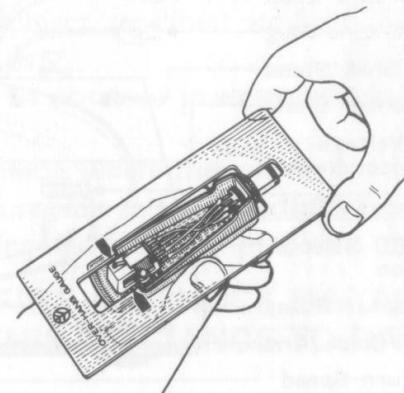

Fig. 8 Adjusting the Over-hang
- Slip the overhang gauge over the head shell as shown in Fig. 8 and move the cartridge so that the stylus point lines up with the gauge arrow-marks. Now tighten the cartridge locking screws. This completes correct stylus overhang adjustment for this turntable.